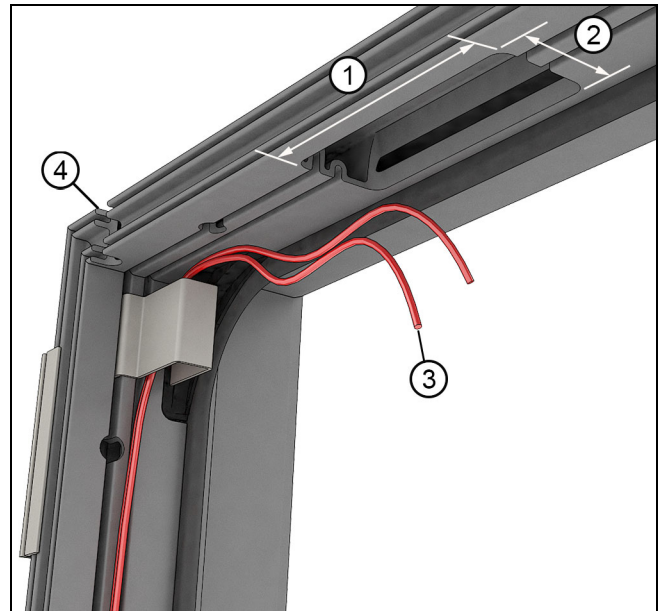

Figure 34 Head jamb transmitter pocket (jamb stop removed for illustrative purposes).
3. With the head jamb cover removed you will have access to the wire leads, and either the routed transmitter pocket for wireless connections or the head jamb notches for hardwired connections. See Figure 34.